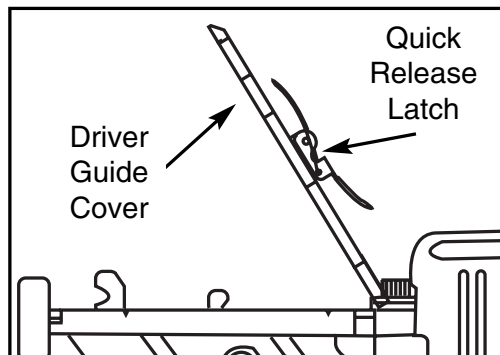

Figure 5. Removing guide cover.
4. Flip up the quick release latch located on top of the nailer nose assembly as shown in **Figure 5**.